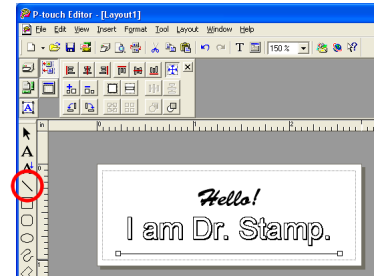

figure 14
- 2 Select the Line tool, and then drag the pointer in the layout area to draw the desired line (see figure 14).